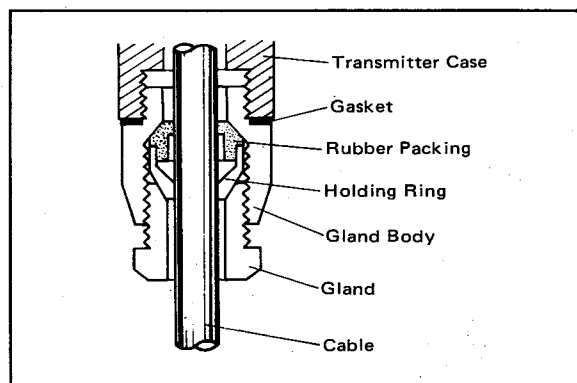

Figure 2-18. Two-Wire Transmitter Cable Inlet.
- (3) Mount the cable gland on the wiring hole. The nut which has been removed in item (2) is not necessary. Screw the gland body securely into the wiring hole (see Figure 2-18). In this case, loosen the gland nut so as not to twist the cable. When the gland is mounted, tighten the gland nut firmly on the gland to keepout moisture. However, if the gland nut is screwed too tight, the cable may be damaged.